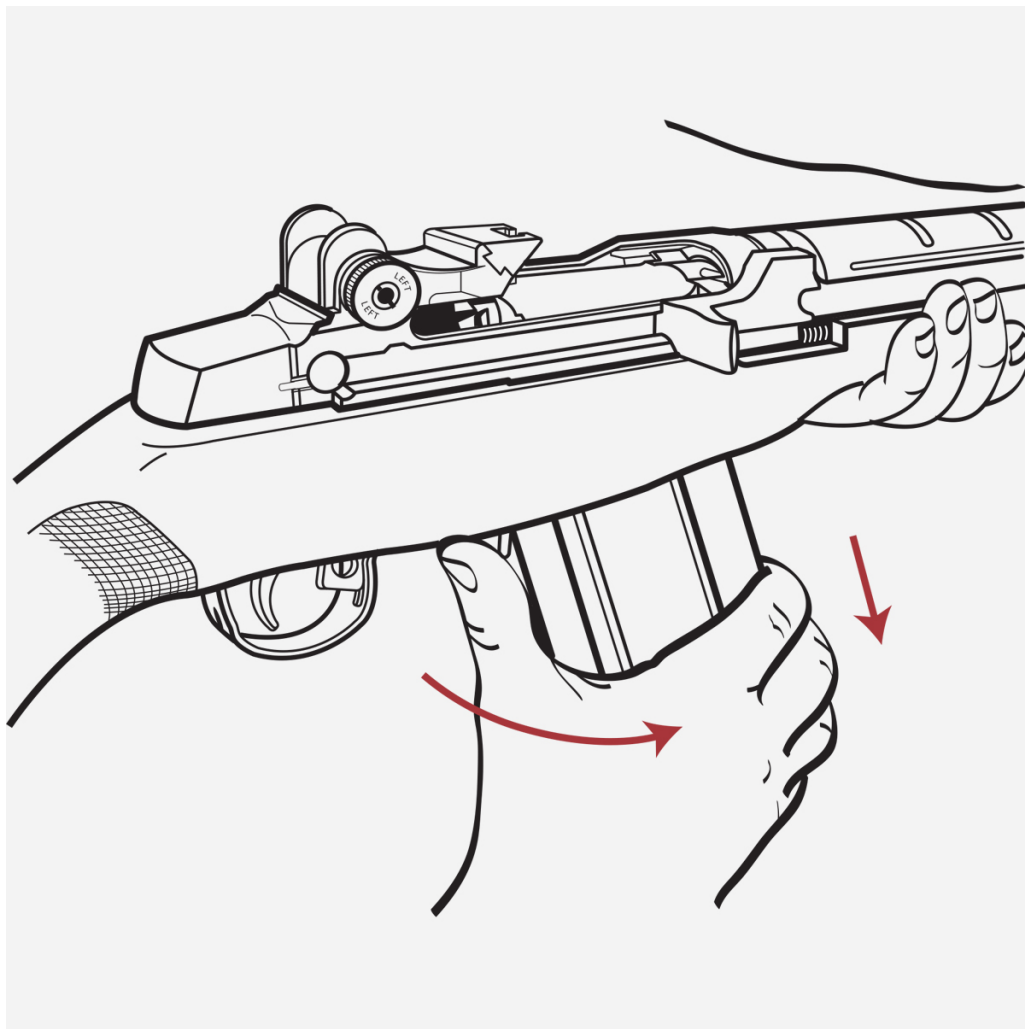

Fig 5
1. Place the firearm on safety, point it in a safe direction, and remove the magazine. Push the magazine release with your thumb and rock the magazine down and forward [see figure 5].